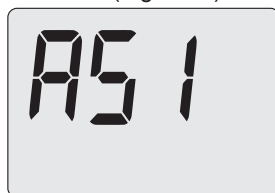

Fig. 10.2
- Press 13 and hold until the LCD display shows the code **A51**, indicating entry into “parameter A51” (Fig. 10.2).
- To return to the parameter list **without activating** the function Fig. 10.2, press keys 13 or 14.